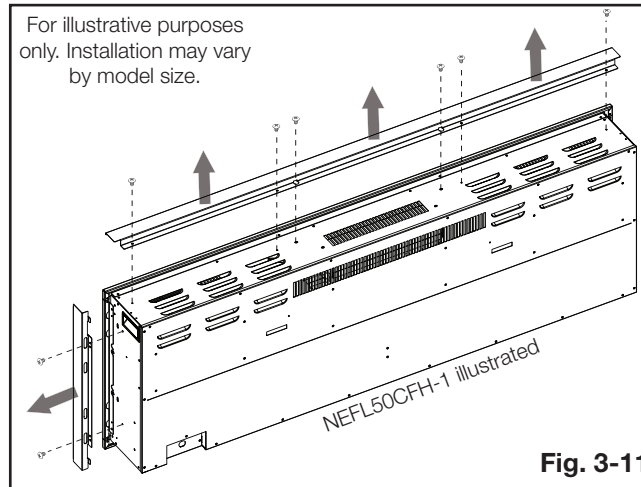

Fig. 3-11
- A. Remove side trims and top trims (**Fig. 3-11**).